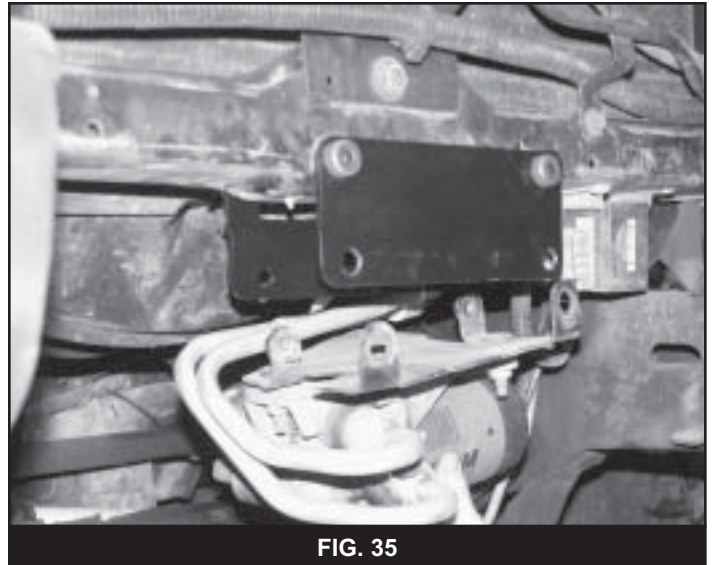

FIG. 35
79. **V6 Only:** Install the oil filter relocation brackets to the original mounting holes in the core support with the provided 3/8" x 4" bolts, 1/2" x 2.970" sleeves, nuts and 3/8" USS washers. The front bracket is flat and the rear bracket should bend forward with the notch to the passenger's side of the vehicle fitting over the new radiator shroud bracket (Fig 35). The lower holes will be offset to the driver's side. Leave bolts loose.